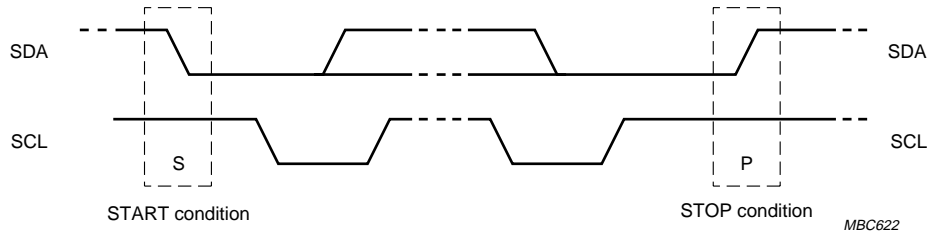

Fig.7 START and STOP conditions on the I²C-bus.
Both data and clock lines remain HIGH when the bus is inactive. A HIGH-to-LOW transition of the data line, while the clock is HIGH is defined as the START condition (S). A LOW-to-HIGH transition of the data line while the clock is HIGH is defined as the STOP condition (P); see Fig.7.